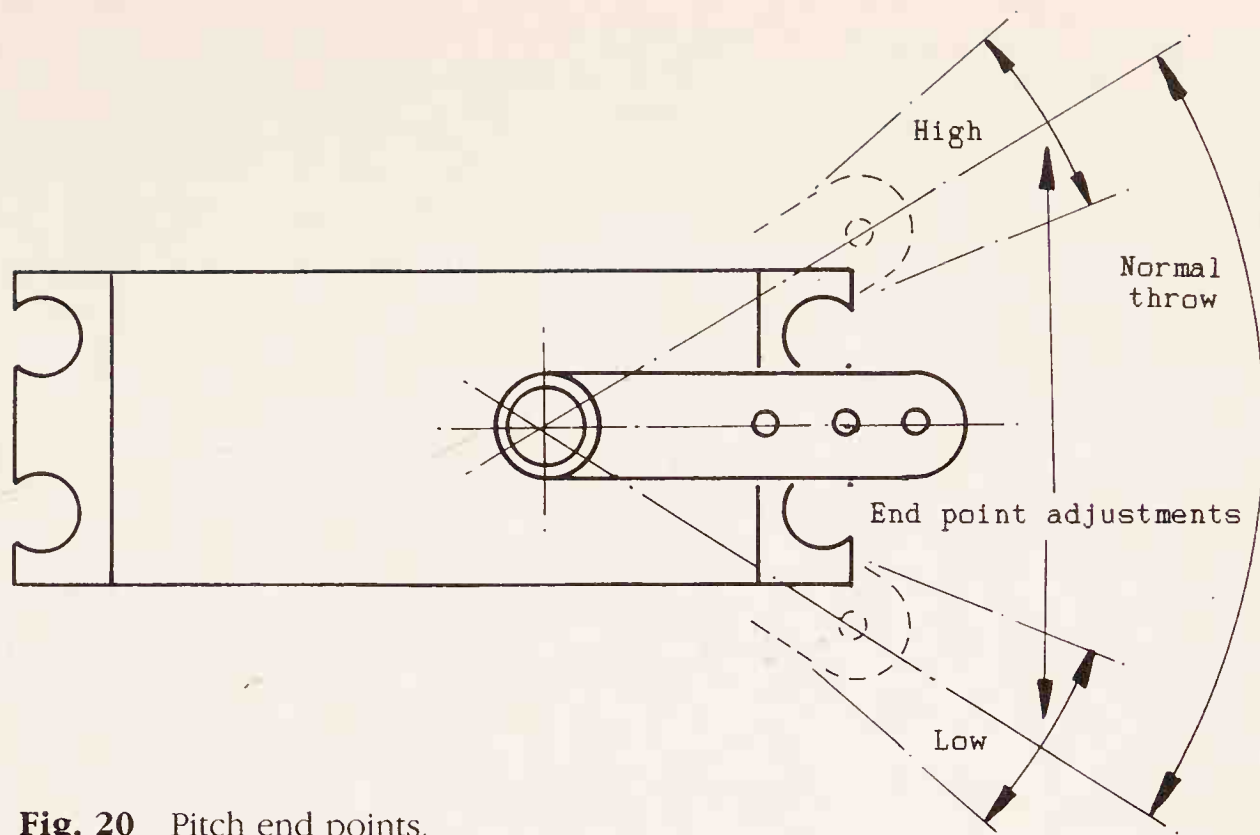

Fig. 20 Pitch end points.
- (c) Pitch end point adjustments which set the amount of pitch available at each end of the throttle stick's travel (Figure 20).